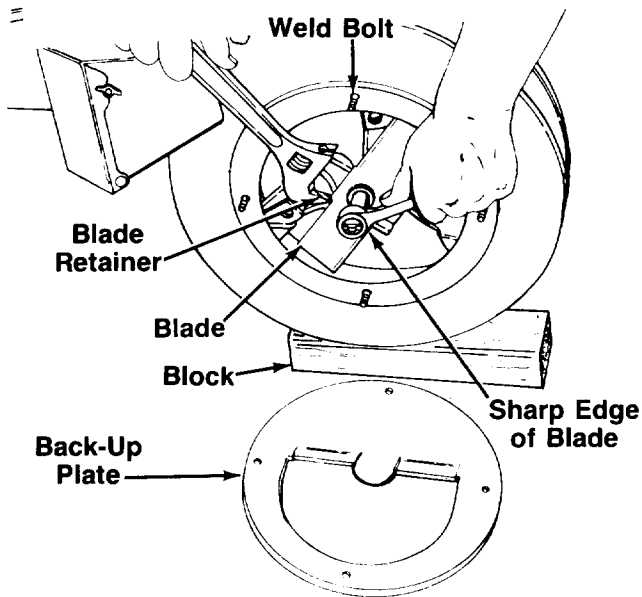

FIGURE 20.
- Lower the hopper assembly. Block up the housing. See figure 20.
- Hold the blade retainer on the impeller assembly with an adjustable wrench to keep the blade from turning as shown in figure 20.